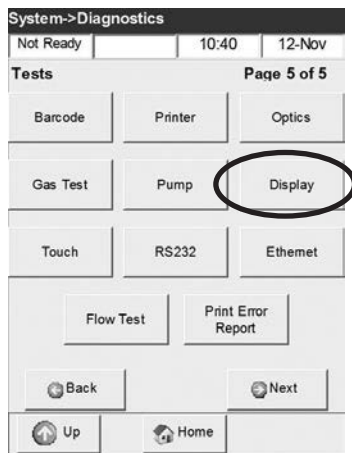

Fig. 7-22 Display Test
- Press **<Display>** to start the test (Fig. 7-22).